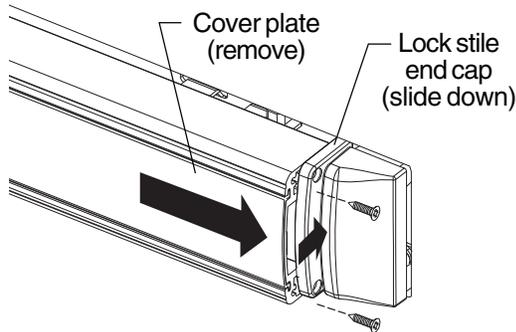

Figure 1-1
- 1** Remove two screws from lock stile end cap, then slide cover plate from device as shown (Figure 1-1).